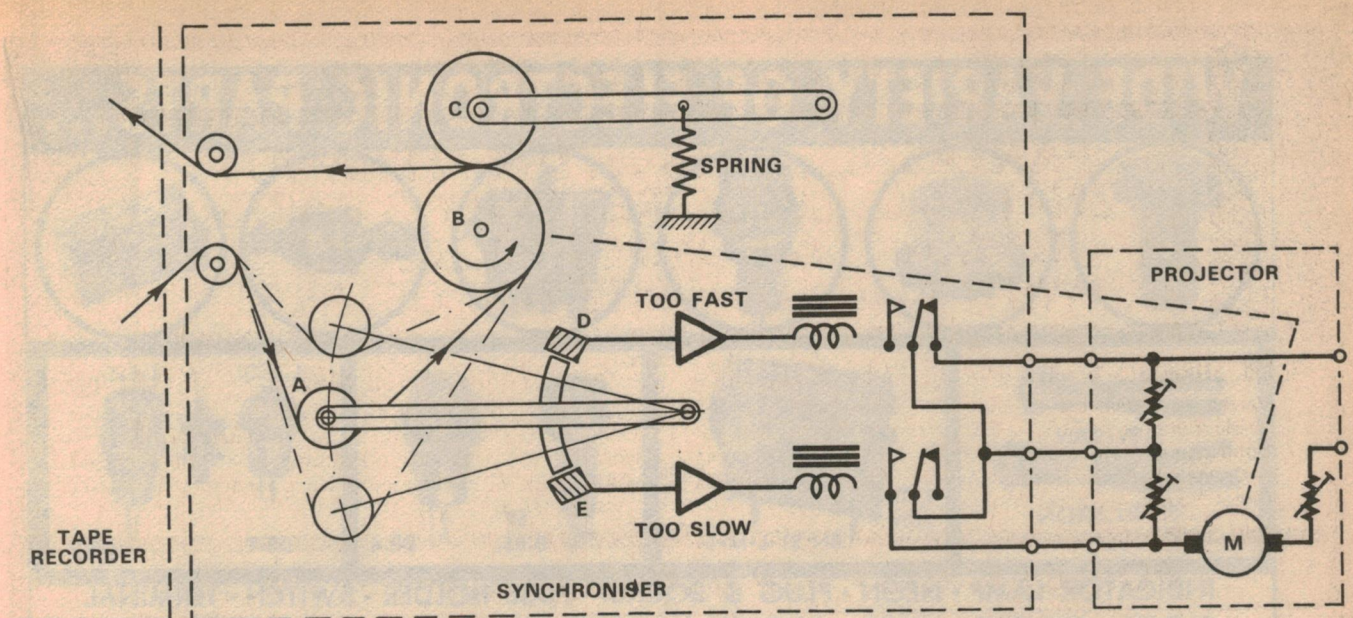

Fig 13: the circuit diagram of an integrating tape-bypass, loop detector synchroniser.
The most commonly known integrating control system is the tape-bypass, loop-detector system (Fig 13). The tape is fed to the synchroniser via a moveable roller (A), which is mounted on a spring blade, and a fixed roller (B) operating in conjunction with a pressure roller (C). The fixed roller (B) is driven by the projector.